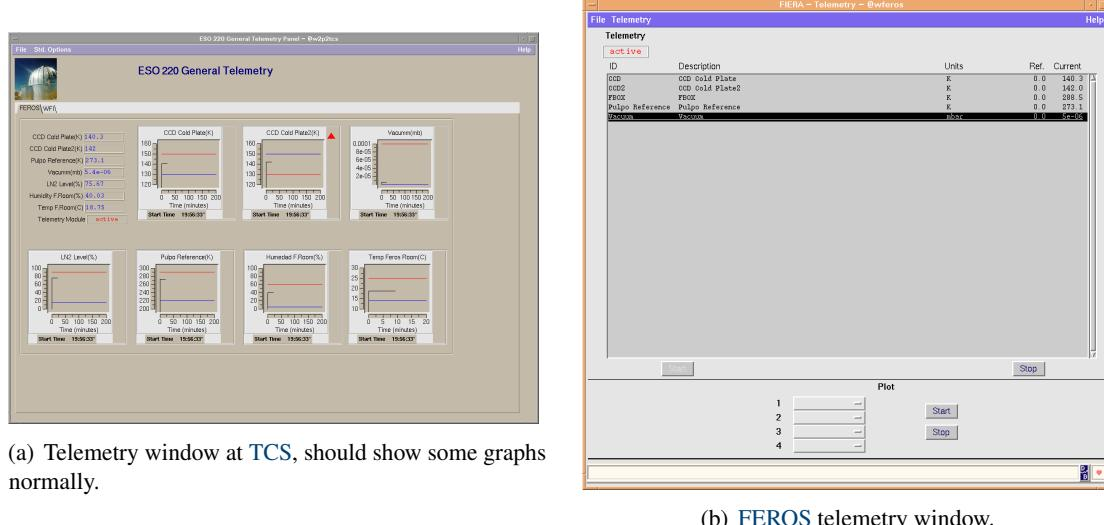

Figure 8.4: Telemetry window.
- There is a problem with the FEROS telemetry at TCS (window should show some graphs, Fig. 8.4(a)):